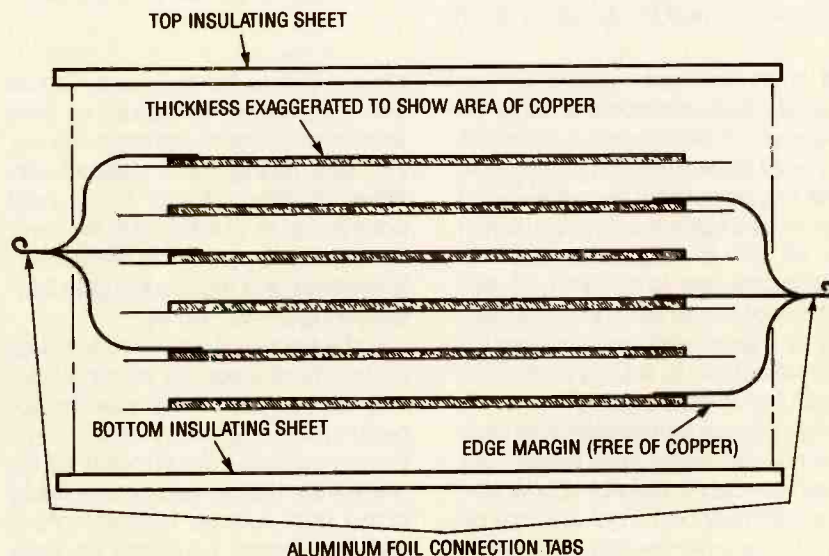

Fig. 3. With this design, you may stack as many plates as you wish, provided there are an equal number of plates attached to each lead.
If you are building a multiple-section capacitor, connect the aluminum foil strips together as shown in Fig. 3 and secure them using glue or nylon bolts at each corner. Spray the finished assembly with several coats of an insulating product, or paraffin.
**The Stacked Sheet Design.** This type is virtually identical to our PC board capacitor, but it can be designed to handle considerably more voltage. You simply substitute sheet plastic or glass dielectrics, and glue aluminum foil in place of the copper for each section (refer to the PC board capacitor drawing in Fig. 3 as needed). All in all, it's an easier design to build, as it does not involve the effort of etching copper, and you can continue to add sections to your original prototype to increase its capacity as future demands require.